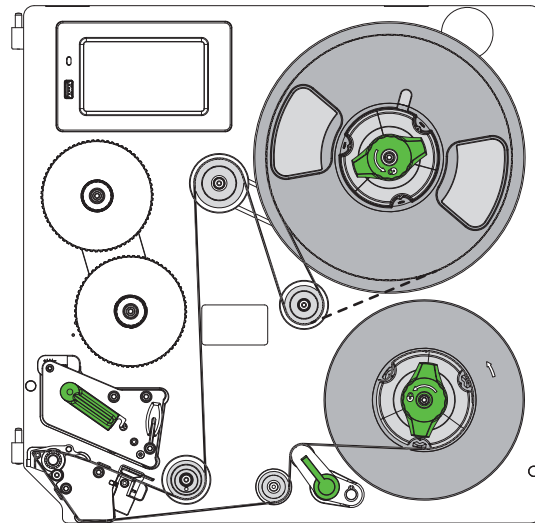

Figure 12 Label feed path
1. Turn lever (4) counterclockwise to lift the printhead (2).
2. Move the guide (6) to the outermost position by turning the spindle (7) with the Allen key (8).
4. Guide label strip (5) to the print unit as shown in Figure 12. The broken line shows the path for inside wound labels.
5. Guide label strip through the label sensor (3) to the peel-off edge.
6. Move the guide (6) against the label strip by turning the spindle (7).
7. Forward the label strip over the peel-off edge (1), that the strip reaches back internal rewinder. Remove the labels from the overhanging strip.